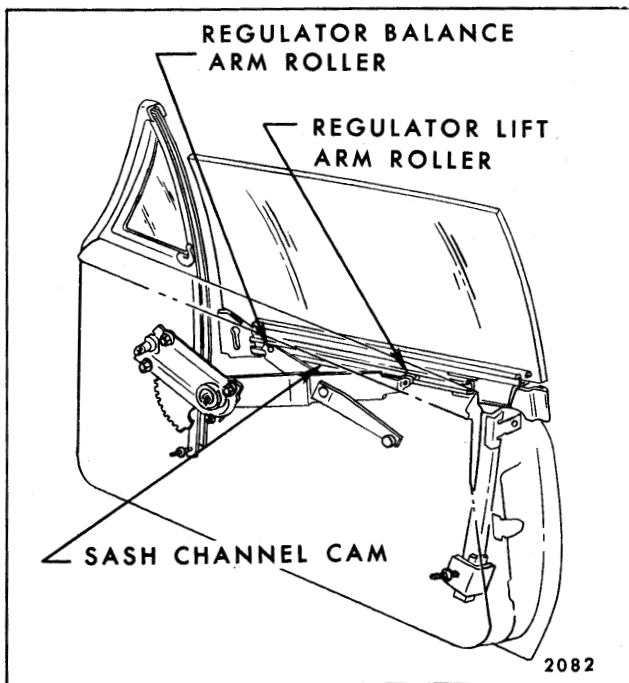

Fig. 7-85—Front Door Window Installation - Chevrolet "A-17 and 67" Styles
5. Lower window slightly and tilt rear edge of glass up until lower sash channel clears door lock pillar at belt line (see Fig. 7-85 for Chevrolet styles and 7-86 for Pontiac, Oldsmobile and Buick styles).